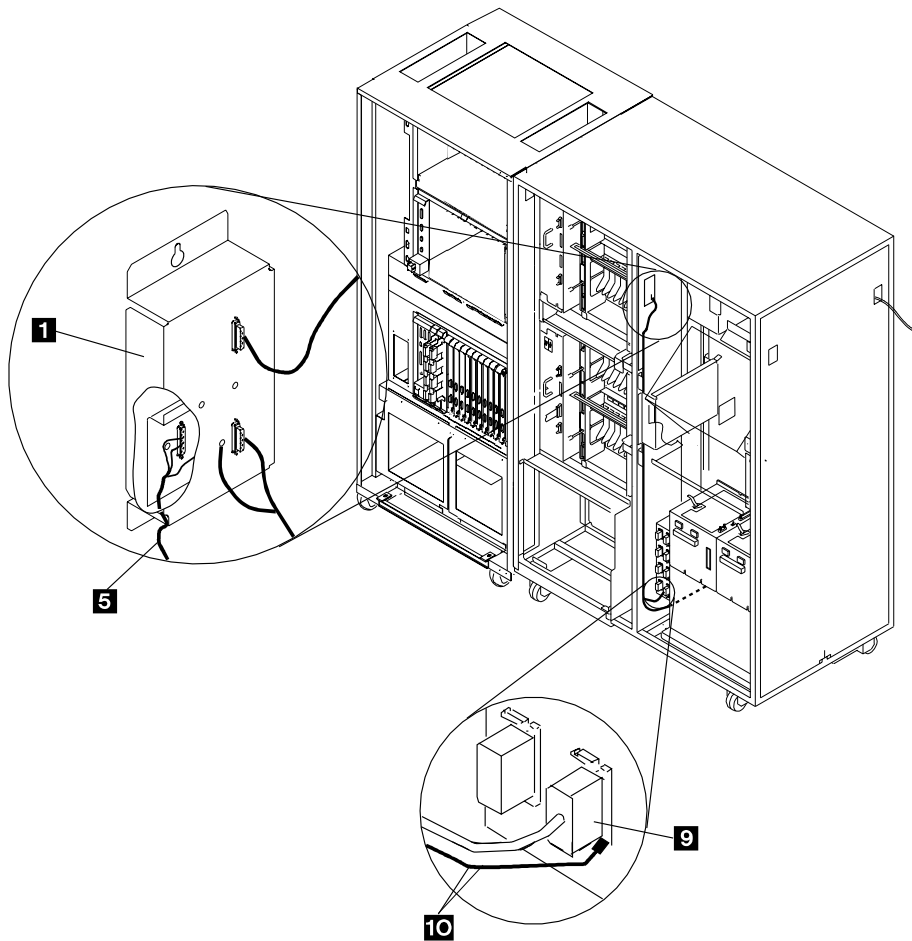
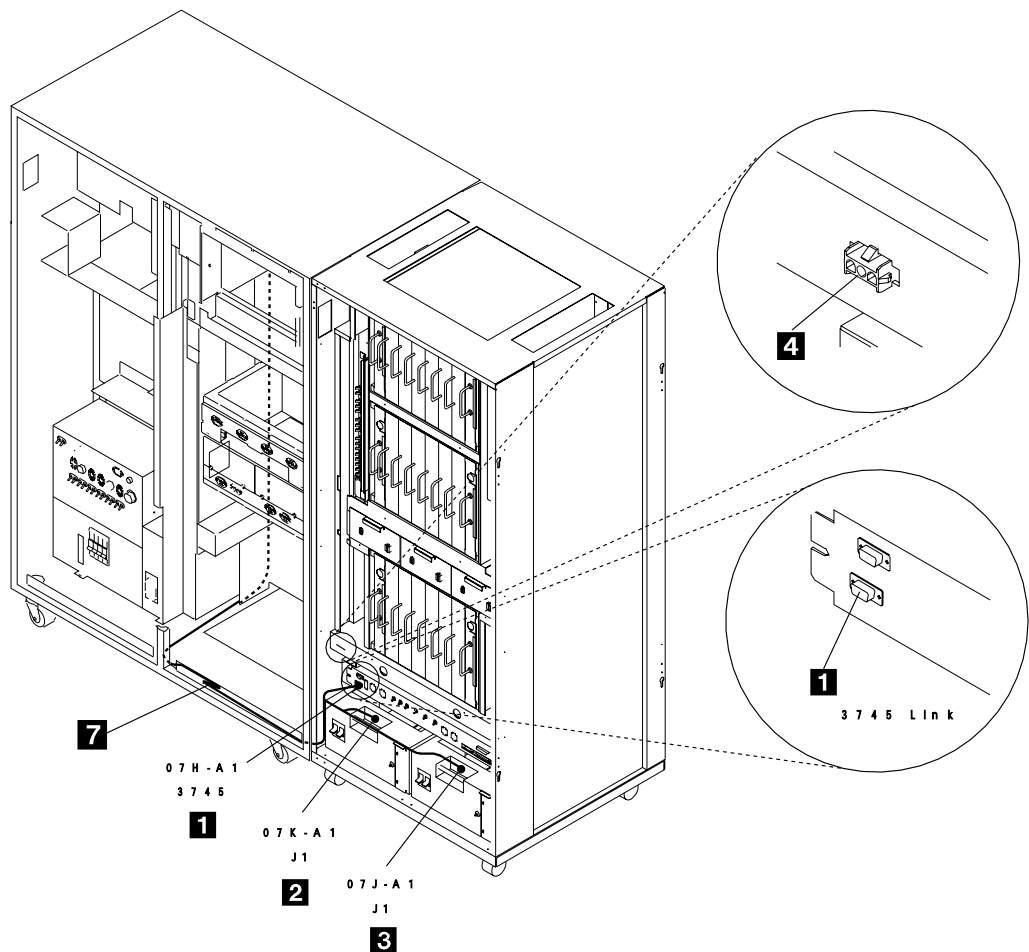

Figure 4-7. 3746-900 Power Control Cable Connection to the 3745-X1A Console Tailgate
Figure 4-8. Power Control Cable Connection to the 3746-900 Power Box
- Step c. \_\_\_\_ Slide the cable **5** PN 03F7538 through the slot at the bottom right side of the console tailgate **1**, down to the 3745 EPO tailgate (see Figure 4-7 on page 4-9).
Step h. \_\_\_\_ Plug the EPO connector **9** to the 3745 EPO tailgate in 01S-A0 into a free plug, any plug from **J1** to **J8** (see Figure 4-7).
### 2. Connect the Power Control Cable (PN 03F7538) in the 3746-900 as follow: (see Figure 4-8)
- Step a. \_\_\_\_ If present remove the raceway cover **7** at the front bottom of the 3745 (see Figure 4-8).
- Step b. \_\_\_\_ Go through the 3745 base frame, route the cable through the raceway at the front bottom of the 3745 base frame and up to the 3746-900 power box. (see Figure 4-8 and Figure 4-7 on page 4-9). Hold the excess length of cable in the 3745 raceway.